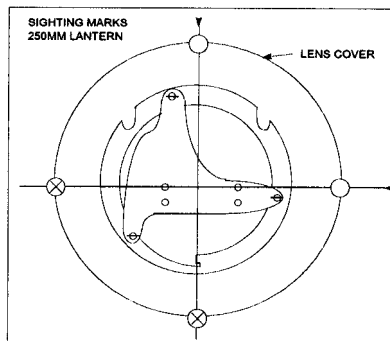

Figure 2-9
- b. With lantern open, look into the lens cover. Rotate the lens cover until one of the focus knobs is aligned with one set of sighting marks. See Figure 2-9.